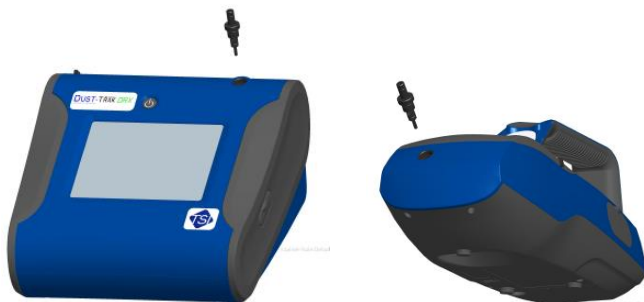

Figure 4-2: Unscrew Inlet Nozzle
2. Unscrew the inlet nozzle from the instrument (Figure 4-2).